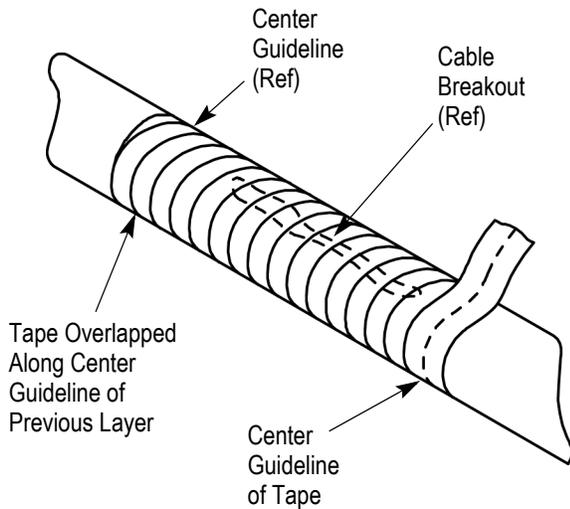

Figure 3
3. Stretch tape approximately 3/4 its normal width. Overlap each layer of tape by matching the edge of the tape with the center guideline of the previous layer. Continue this “half-lap” wrapping procedure until you reach the end of the insulated area. See Figure 3.